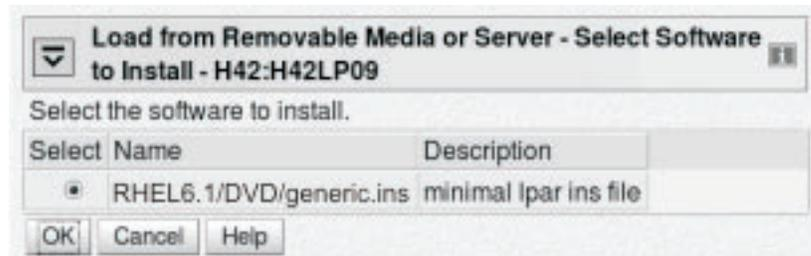

Figure 68. Select Software to Install panel
- 5. Click **Continue** to display the “Select Software to Install” panel (Figure 68).